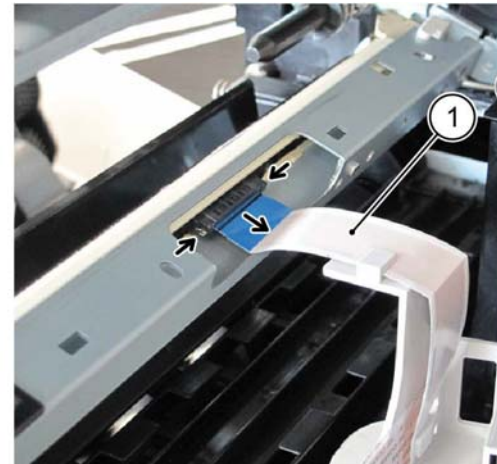

Figure 8 FFC Cable
10. Carefully disconnect the FFC cable (1) by releasing the side clips, Figure 8.